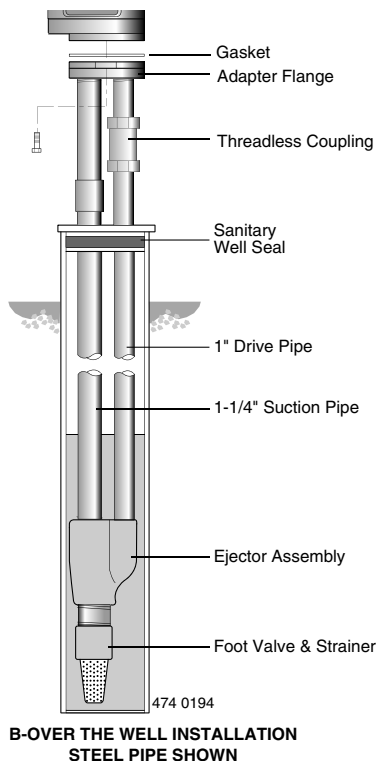

Figure 2: Over the Well Installation
9. Install sanitary well seal on top of well casing; use steel nipple through well seal as shown in Figure 2.